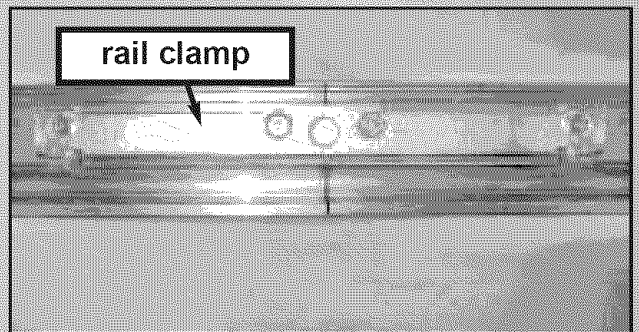

Fig. 1-12
- Secure rail clamps with 4 bolts [8] and 4 nuts [9], hand tight only. **Fig. 1-12.**